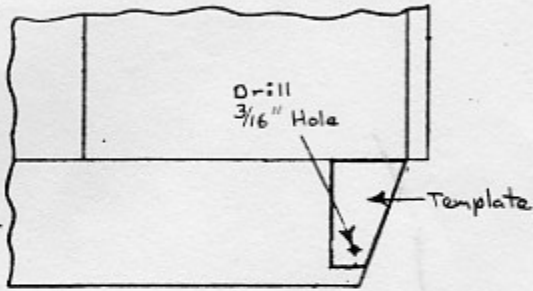

Fig. 1 - Left Fender
4. Locate and drill 3/16 inch hole in left fender using template provided as shown in Figure 1.